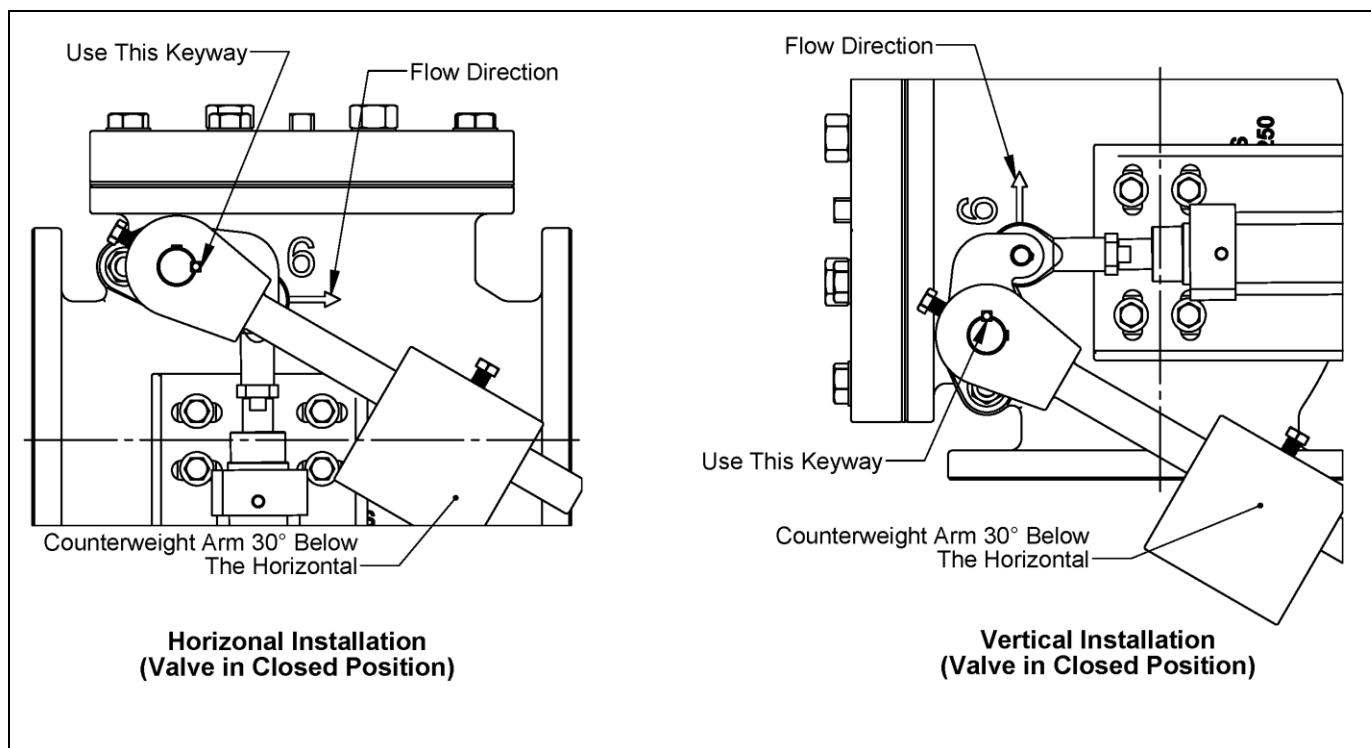

Figure 1 – Counterweight Arm Position
- To change the counterweight arm position, loosen the Lever Arm Bolt Set Screw (B55), slide the counterweight arm assembly off the Pivot Shaft (A13), rotate the counterweight arm assembly and slide it back onto the Pivot Shaft (A13) using the appropriate keyway shown in Figure 1. See Figure 2 for component identification.